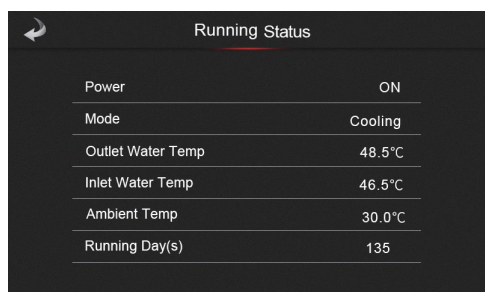

Fig.11-1 Running Status interface
- In the Status interface, press the Running Status button to inquire about the running status parameters (refer to Fig. 11-1).